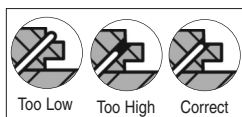

Figure 4
- Improper adapter plates and air pressure settings can cause severe damage to the hardwood flooring and reduce performance (Figure 4). Always use an in-line regulator to control air pressure to the machine. Set pressure at 70-75 PSI to begin with and adjust until proper fastener setting occurs.